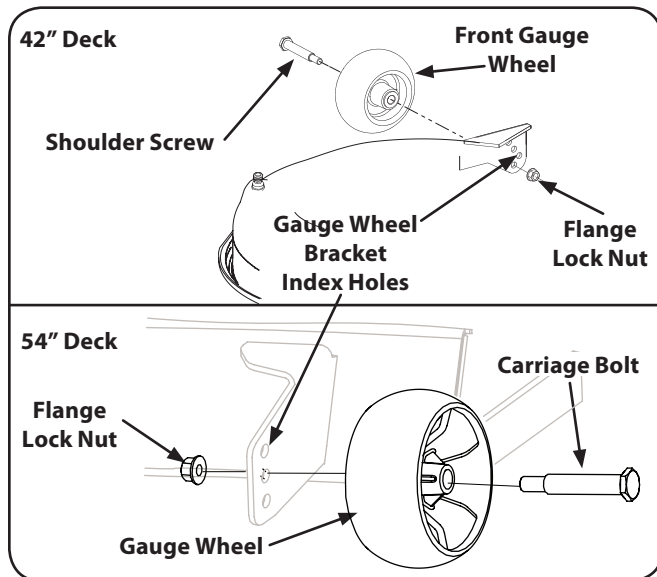

Figure 3-5
- Remove the front gauge wheels on the 42" deck by removing the flange lock nuts and shoulder bolts. Remove the front and rear gauge wheels on the 54" deck by removing the carriage bolts and flange lock nuts. See Fig. 3-5.